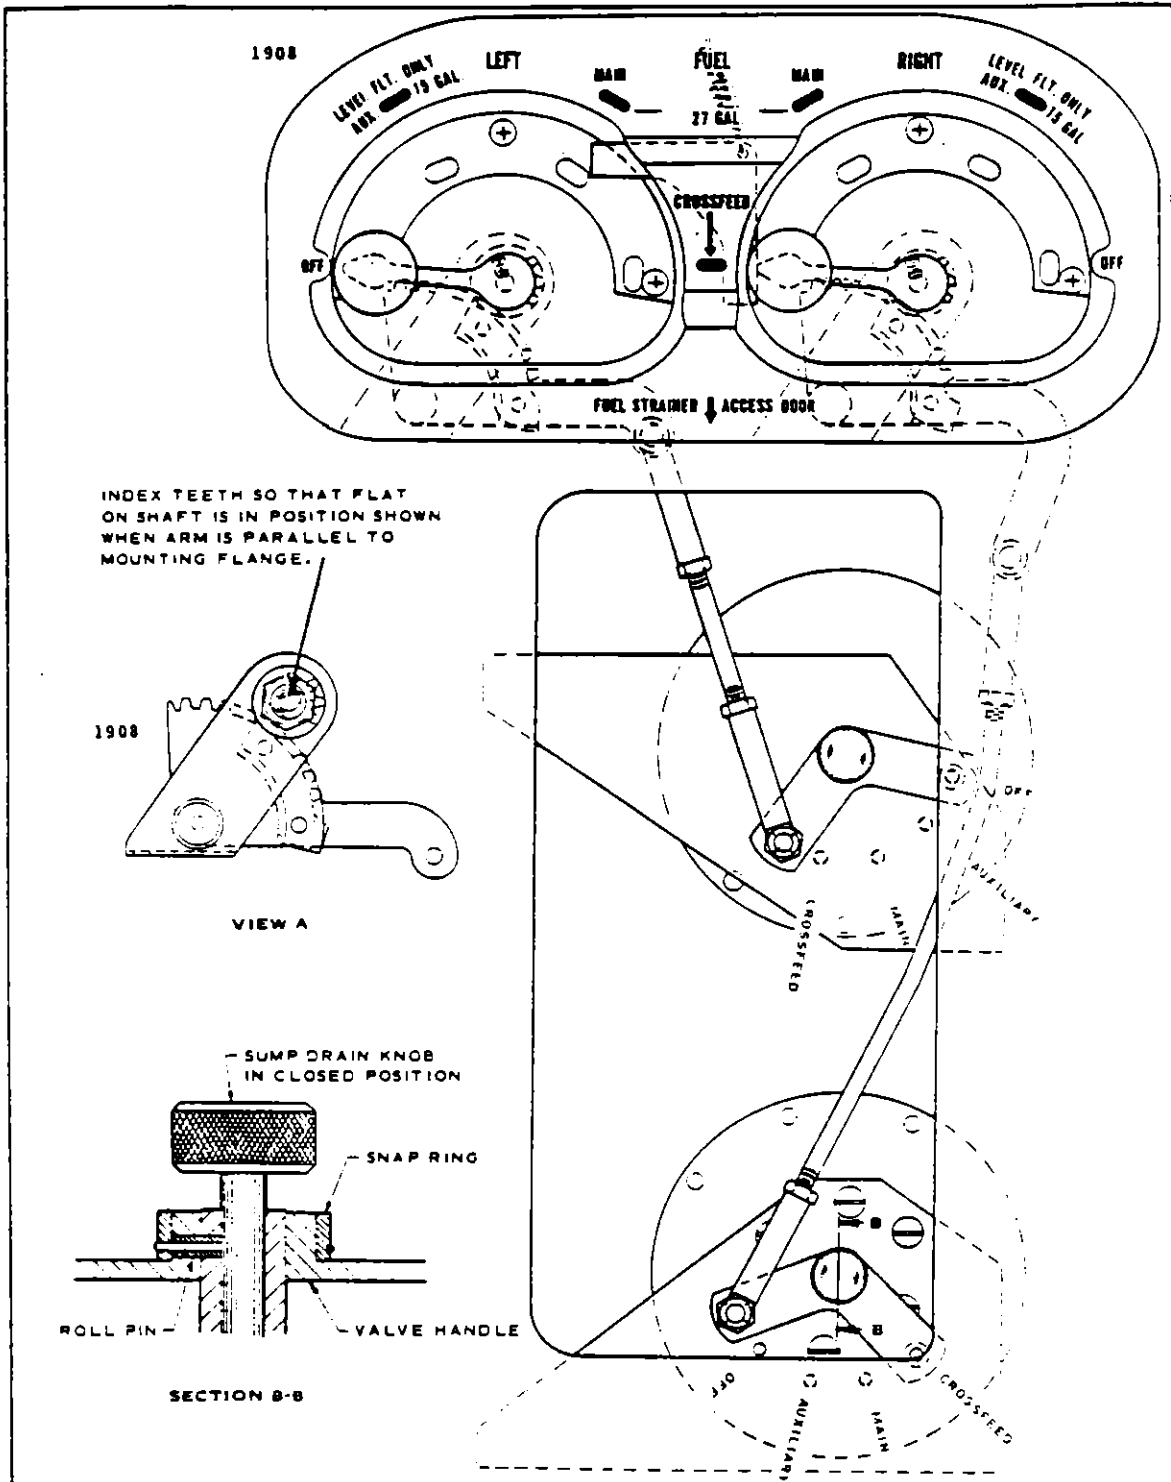

Figure 9-12. Fuel Selector Valve Control Installation
Ascertain that valve handle roll pin lock (furnished in Kit #760 444) is in place before installing fuel selector valve. (Refer to Figure 9-12.)
9-22. ADJUSTMENT OF FUEL SELECTOR VALVES. (Refer to Figure 9-12.)
- i. Install the fuel selector valve control assemblies and secure with screws, washers and nuts. (Refer to Figure 9-12.)